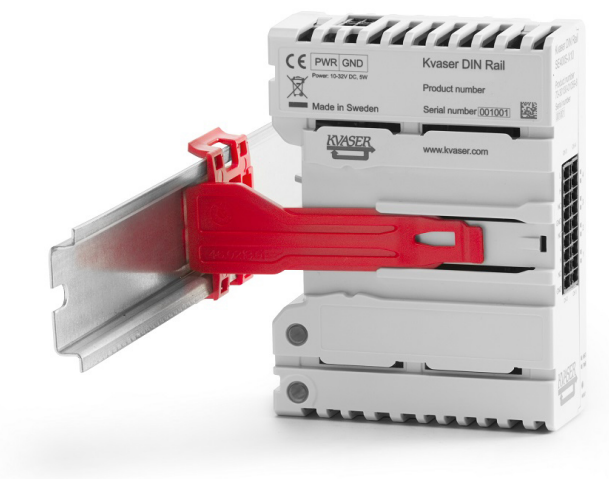
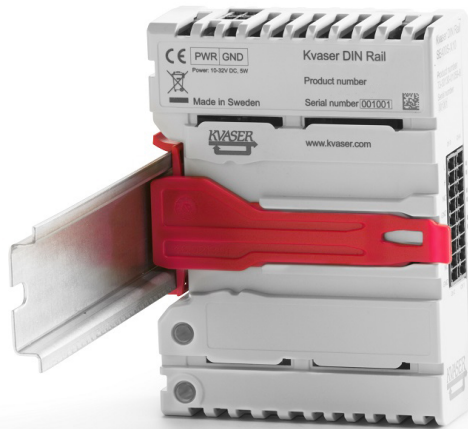

Figure 3: Inserting module into clip mounted on a DIN Rail.
Figure 4: Module securely mounted on a DIN Rail.
2. Mount the Kvaser DIN Rail SE400S-X10 module by inserting the module so that the mounting clip fits into the guiding rail of the module. Apply slight pressure of the module against the DIN Rail so that the module locks into place, see Figure 3 on Page 10 and Figure 4 on Page 11.